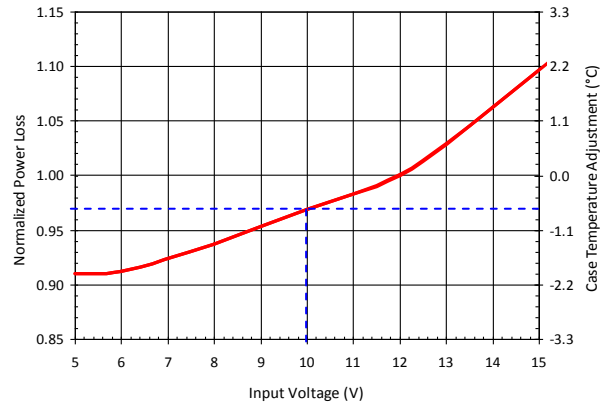

Figure 11: Normalized Power Loss vs. Input Voltage
- 2) Determine the input voltage normalizing factor with  $V_{IN}=10V$ , which is 0.97 based on the dashed lines in Figure 11.